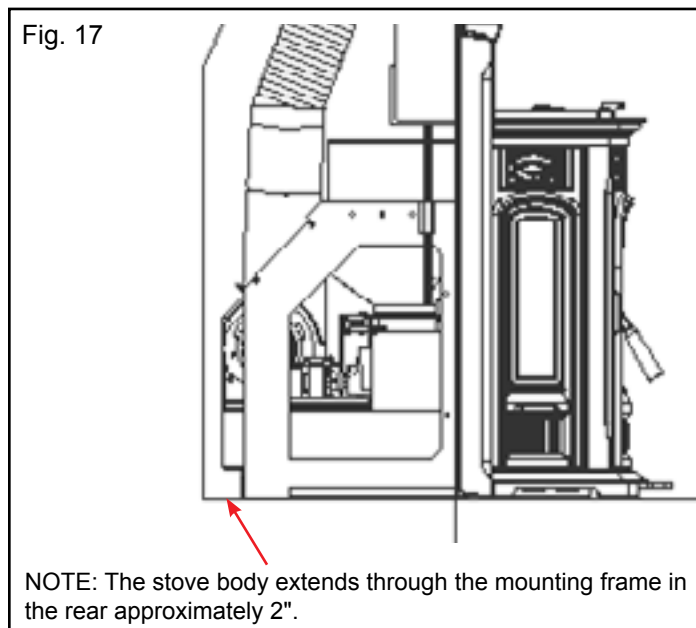

Fig. 17
2. Make sure the unit will fit into the fireplace opening. When installing in smaller fireplaces, test fit the mounting frame into the firebox. Note: The unit overhangs to the rear. See Fig. 17